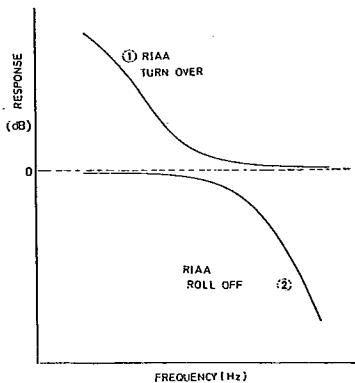
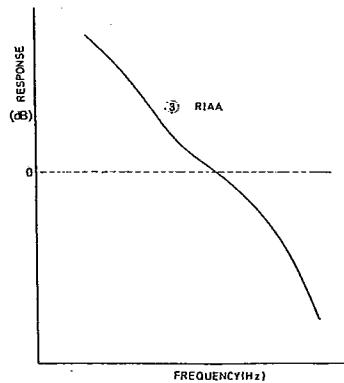
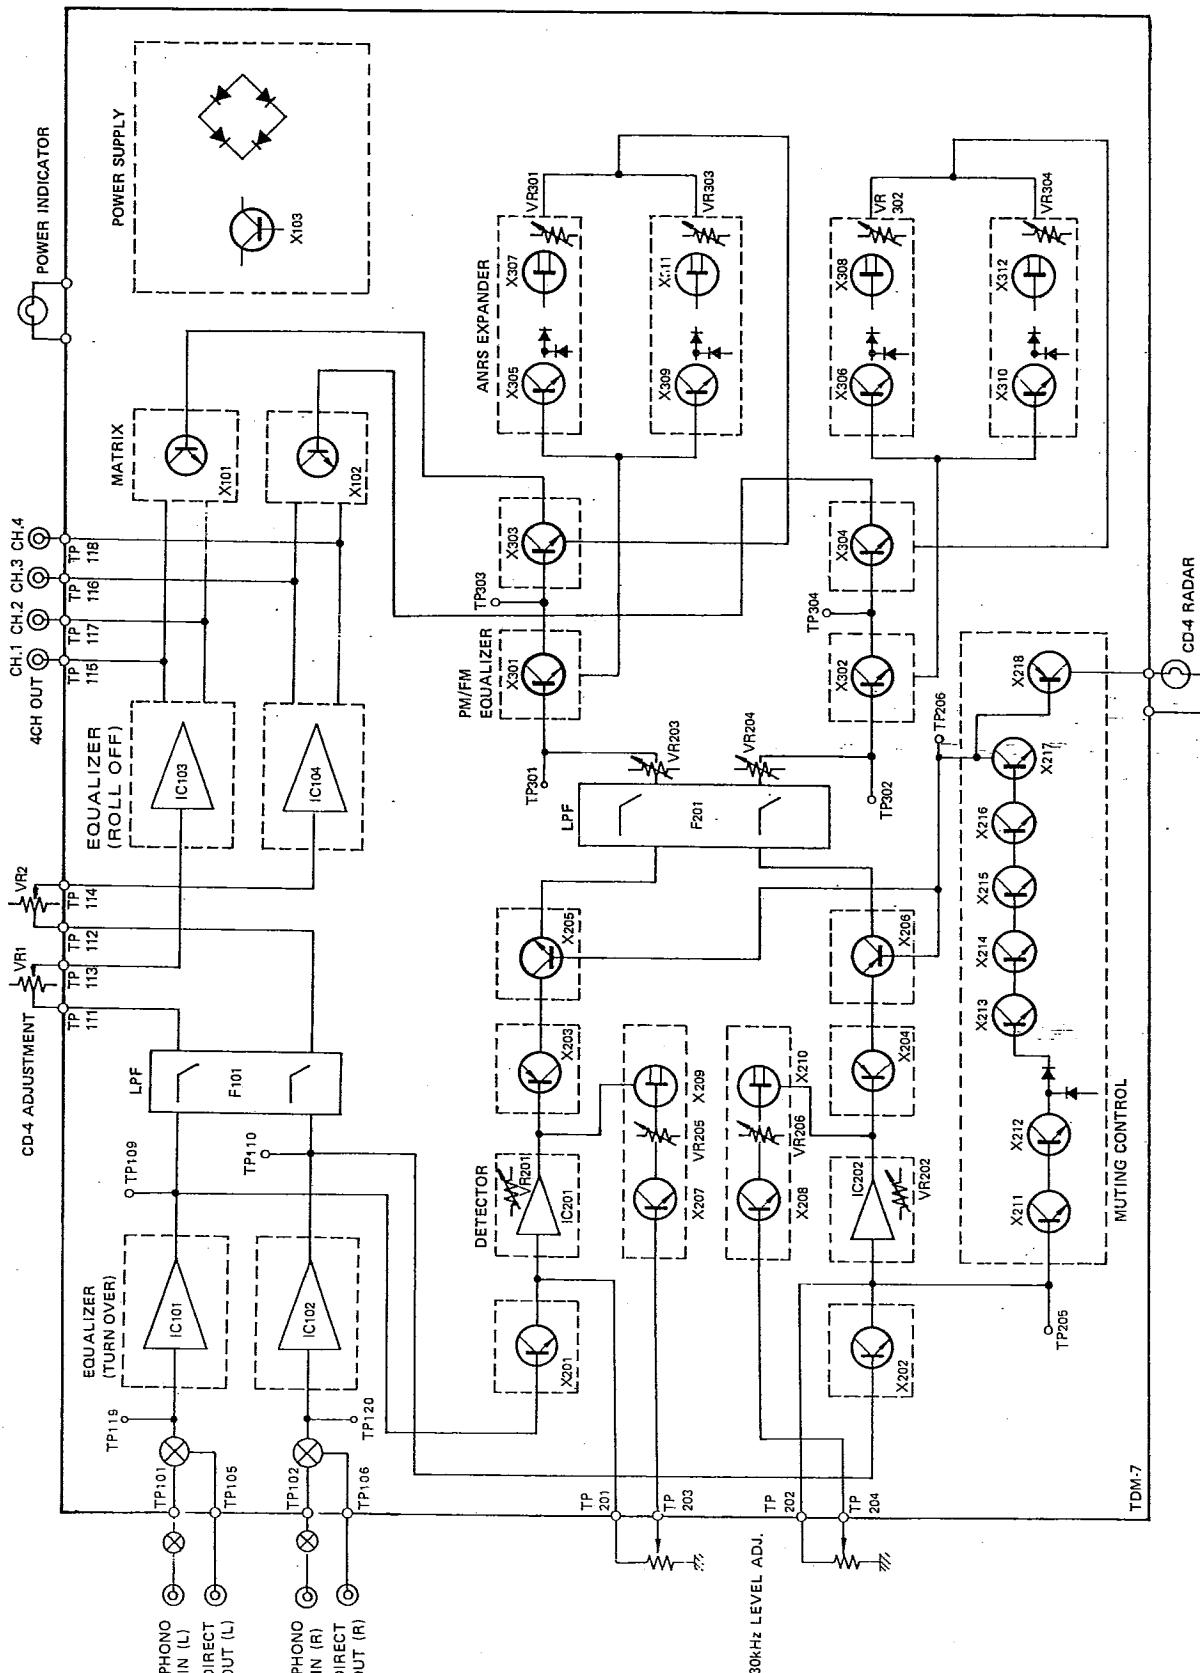

Fig. 3
Fig. 4
Fig. 6
In the block diagram Fig. 6, the player output enters the equalizer (1/2) (IC101 — 102). This equalizer has a characteristic shown by curve (1) of Fig. 3, which is an RIAA standard turnover curve. On the other hand, the equalizer (2/2) consisting of IC103 — 104 has an equalization curve corresponding to the RIAA roll-off characteristic, as shown by curve (2) of Fig. 3. In conjunction these two equalizers give the complete RIAA equalization shown by curve (3) of Fig. 4. Therefore, the sum signal mentioned in the previous section takes the complete RIAA curve transformation before entering the matrix circuit and the carrier signal goes to the demodulator circuit block transformed by the RIAA turnover curve. F101 (low-pass-filter) cuts off the difference signal at 15kHz. The modulated signal is detected by PLL (IC201, 202).